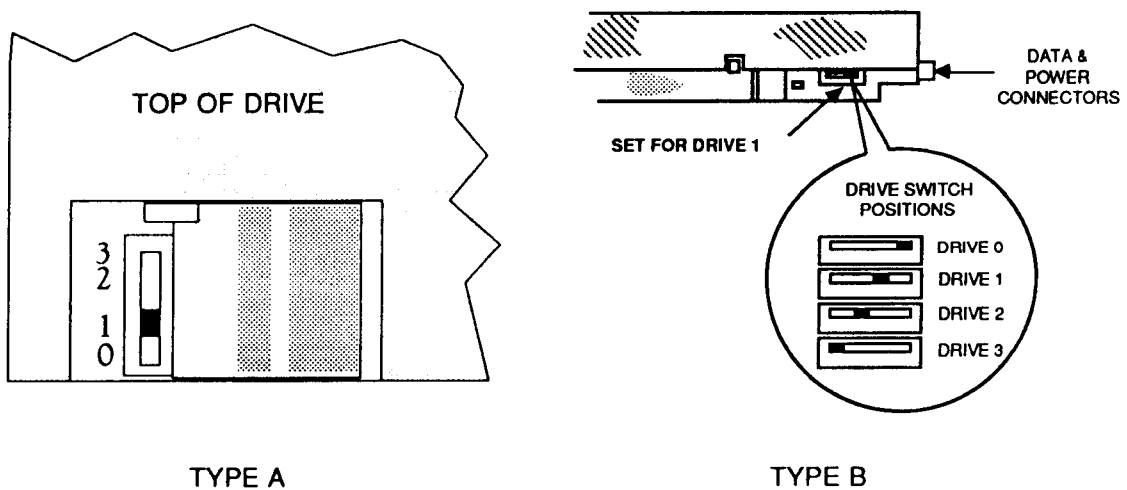

Fig. 4: Configuring the new drive as drive 1
- Before fitting the new drive, it must be configured as drive 1. To do this, set the small slide switch on the drive to position 1 (see Fig. 4 below). The location of the slide switch will depend on the type of drive supplied with your particular kit – there are two possibilities: